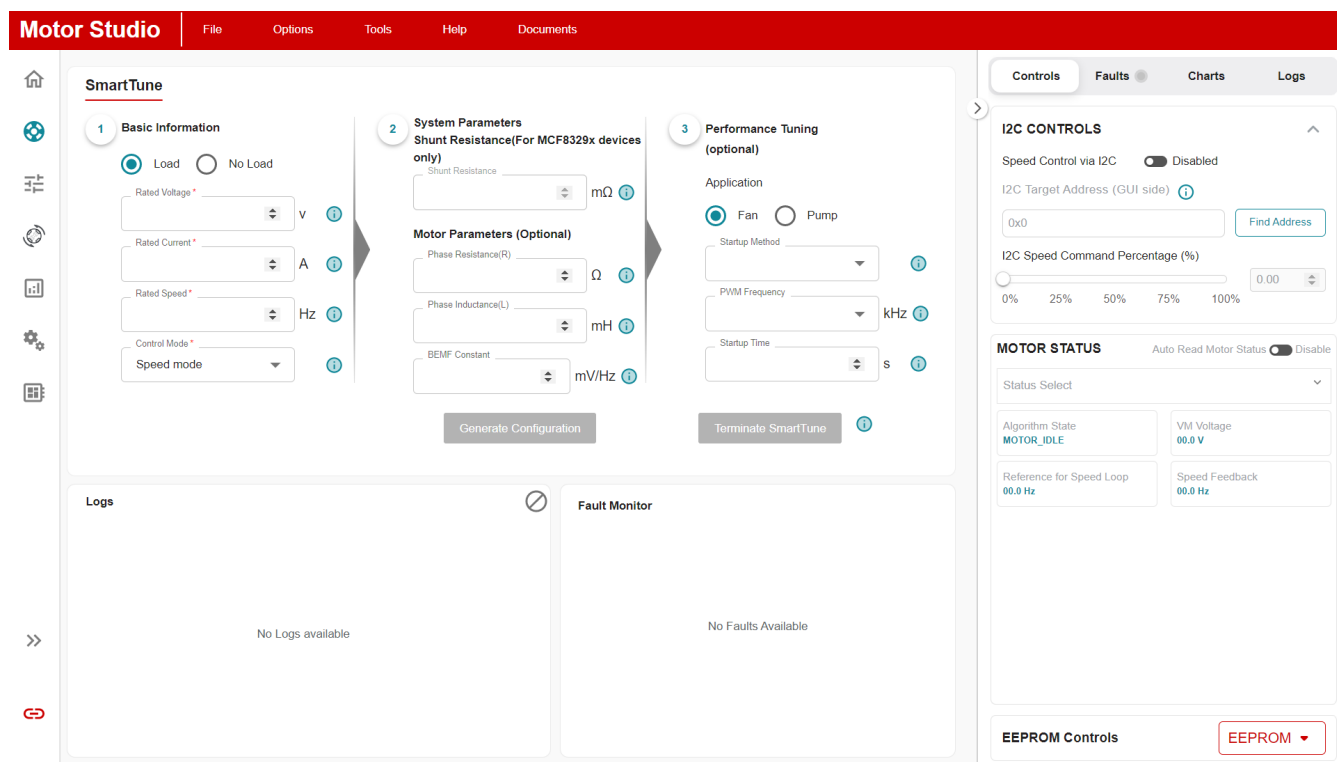

Figure 1-1. SmartTune Page in MOTORSTUDIO
As shown in Figure 1-1, in traditional tuning of FOC, before successfully spinning the motor, users need to configure both motor parameters and system parameters, tune control parameters in start-up, open loop and closed loop, and set fault handling parameters, which is time-consuming and effort-taking.
3. Click SmartTune. The SmartTune page appears as shown in: Figure 1-1.